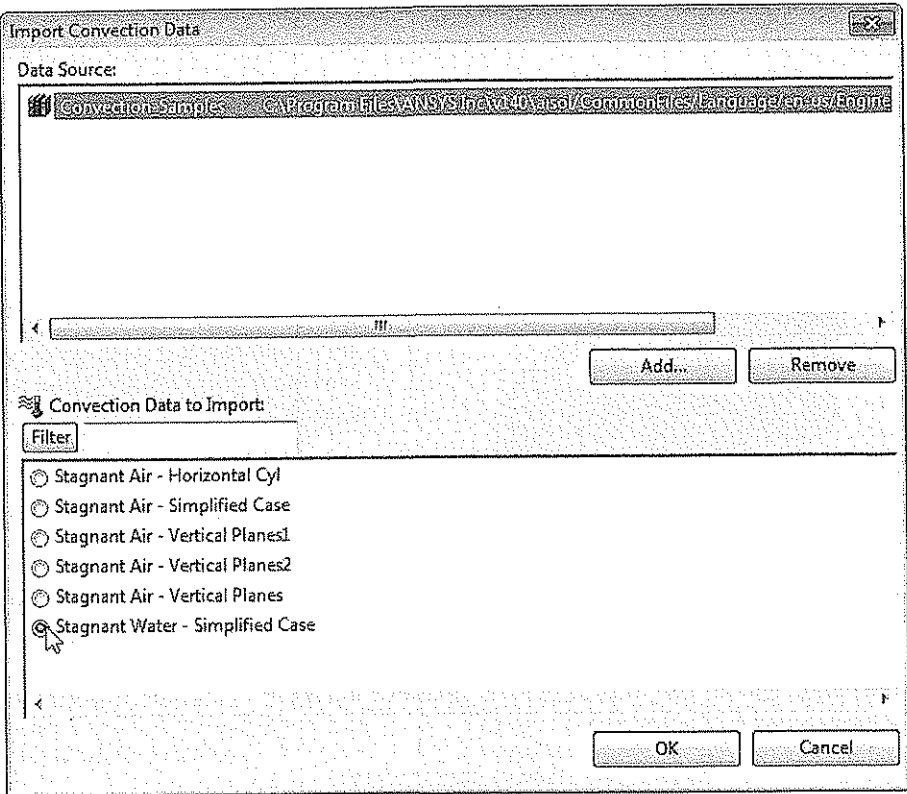

Figure 11-33 The Import Convection Data dialog box with the Stagnant Water - Simplified Case radio button selected
13. In this dialog box, select the **Stagnant Water - Simplified Case** radio button, refer to Figure 11-33, and then choose the **OK** button to close the dialog box and apply the film coefficient; **1.2e-003 W/mm² °C (step applied)** is displayed in the **Film Coefficient** edit box in the **Details of “Convection”** window.